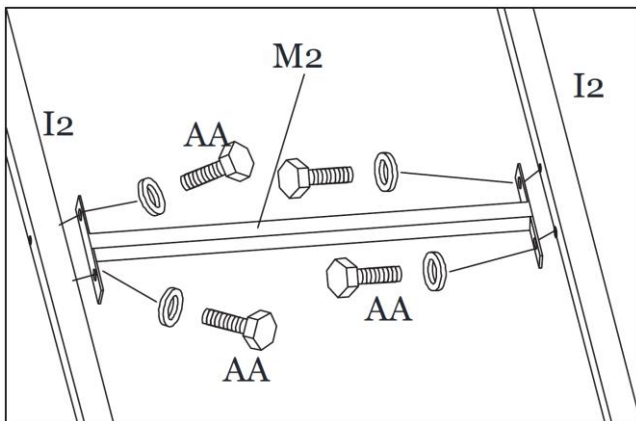

Figure 16-2
Step 16B: Attach the Support Bars (M2) to the Main Roof Vertical Center Supports (I2) using Bolts/Washers (AA). See Figure 16-2 and 16-4.